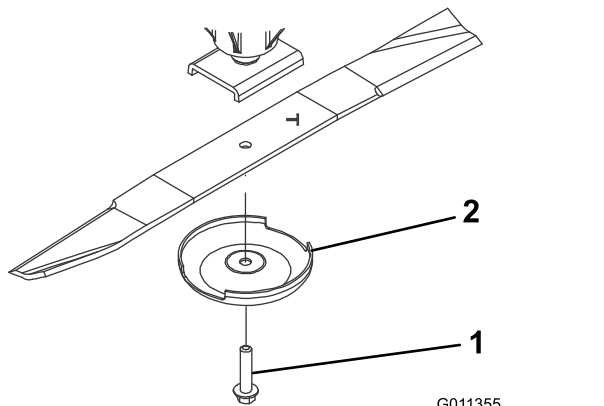

Figure 64
2. Grasp the end of the blade using a rag or thickly padded glove. Remove the blade bolt, anti-scalp cup, and blade from the spindle shaft (Figure 64).
3. Install the blade, sail facing toward the cutting deck, with the anti-scalp cup and blade bolt (Figure 64). Tighten the blade bolt to 115 to 149 N·m (85 to 110 ft-lb).
If the blade is allowed to wear, a slot will form between the sail and flat part of the blade (Figure 64). Eventually a piece of the blade may break off and be thrown from under the housing, possibly resulting in serious injury to yourself or bystanders.